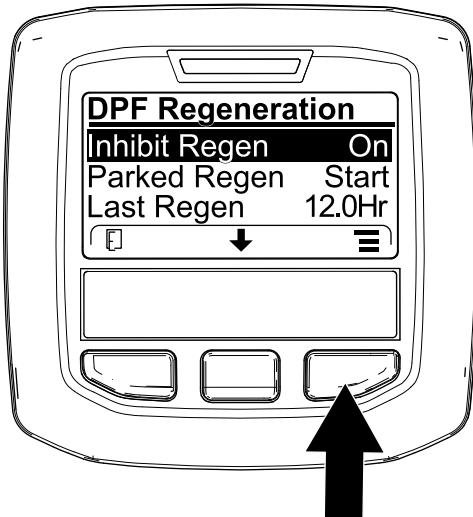
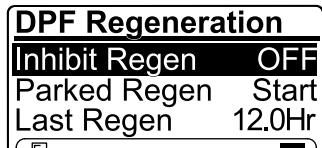

Figure 65
Figure 66
1. Access the DPF Regeneration menu, press the center button to scroll down to the INHIBIT REGEN option, and press the right button to select the Inhibit Regen entry (Figure 65).
2. Press the right button to change the inhibit regeneration setting from On to Off (Figure 65) or from Off to On (Figure 66).